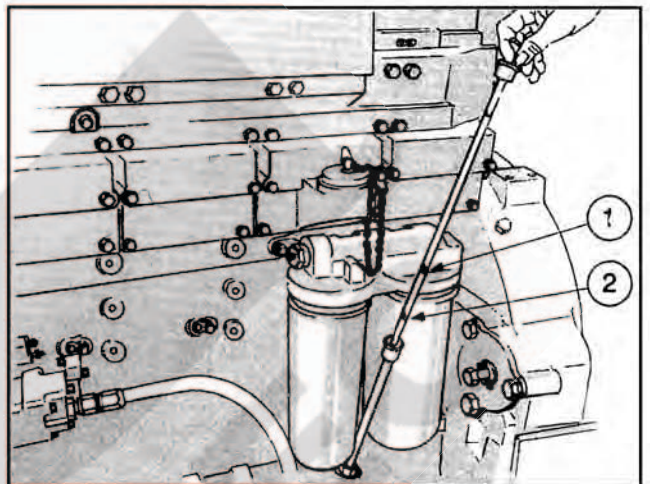

Fig. 1-4, (OM1005L). Checking engine oil level — KT/KTA19
A dipstick oil gauge is located on the side of the engine, Fig. 1-4. The dipstick has an "H" (high) (1) and "L" (low) (2) level mark to indicate lubricating oil supply. The dipstick must be kept with the oil pan, or engine, with which it was originally supplied. Cummins oil pans differ in capacity with different type installations and oil pan part numbers. Check the dipstick calibration. If in doubt, your Cummins Distributor can verify that you have the proper oil pan and dipstick calibration.